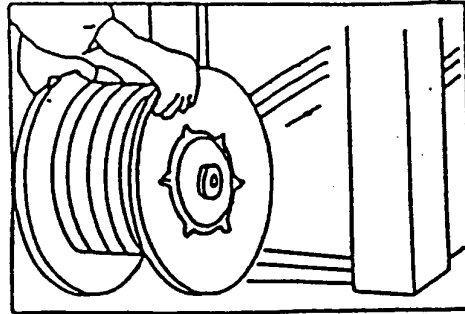

FIGURE 7
3. Install the dispenser on cradle in the machine from left door. (Fig.7)